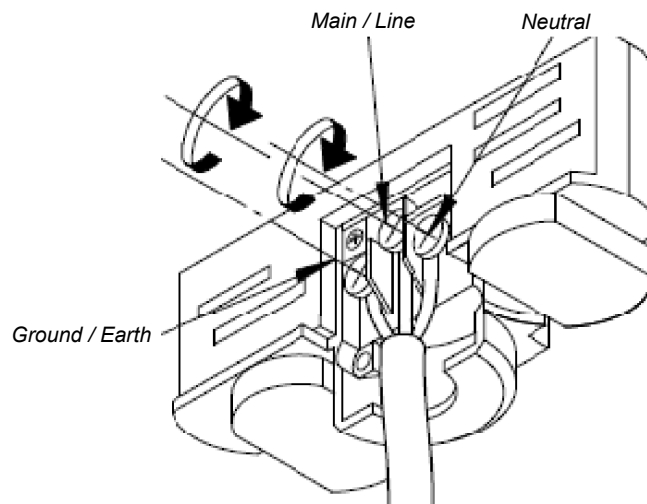

Figure 7: Track Adapter Power Wiring
Step 1. If not done at factory, connect AC wiring as shown in **Figure 7**. Also refer to **Table 1** on page 9.